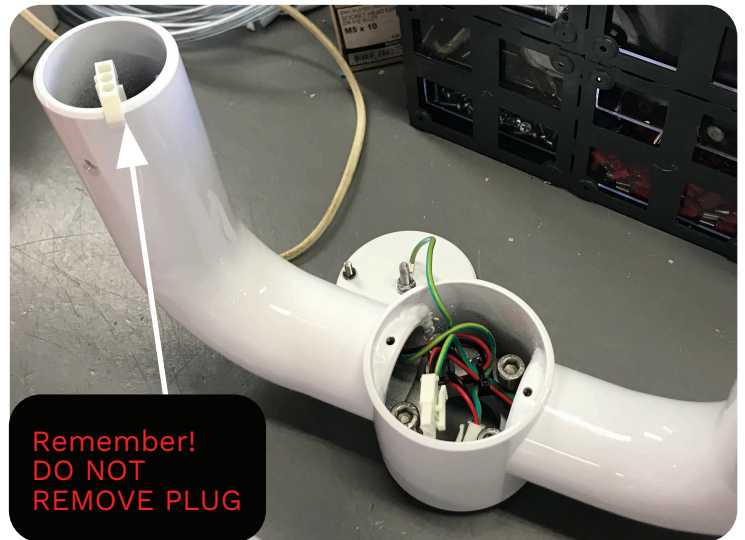

Fig. 9
2. Reconnect the 2 x 3-way plugs: (1) and (2) (Fig.9).
3. Screw on the 4 x M8 bolts: (3)(4)(5),6). Ensure you do not pinch wires as you are tightening (Fig.9).